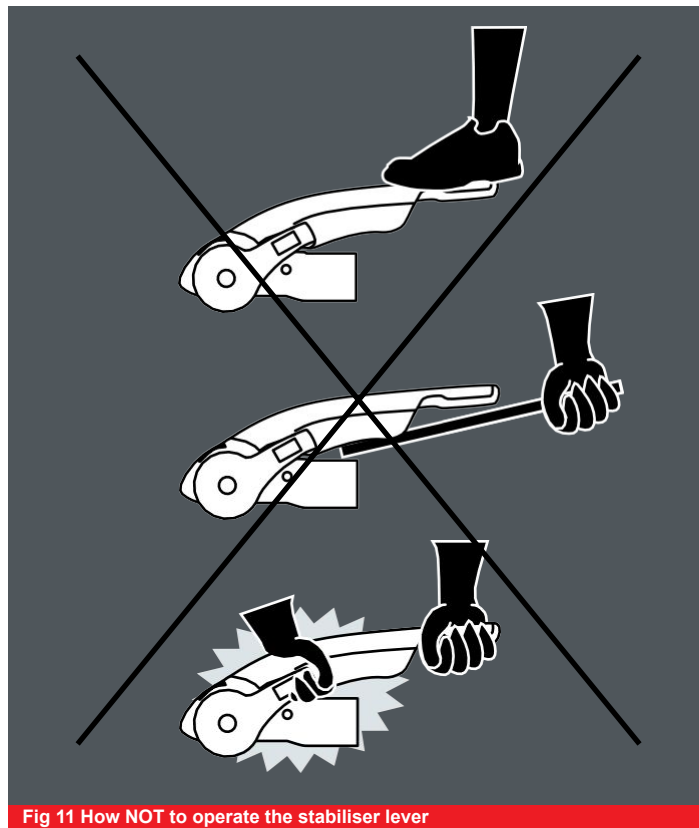

Fig 11 How NOT to operate the stabiliser lever
2. Press stabiliser lever down by hand force only. DO NOT use your foot or an extension bar, this will damage the components (Fig 11).
3. When opening or closing the stabiliser lever, please ensure your hand does not touch the coupling handle - you may accidentally trap your fingers (Fig 11).